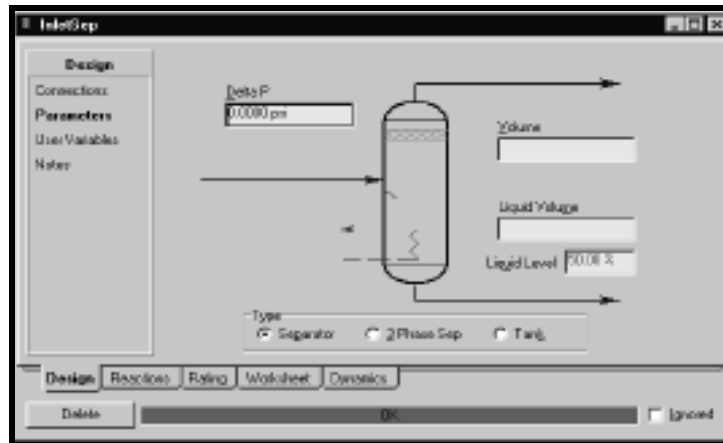

Figure 17: Select the “Parameter”
- Select the **“Parameters”** page. The current default values for Delta P, Volume, Liquid Volume, and Liquid Level are acceptable (Figure 17).